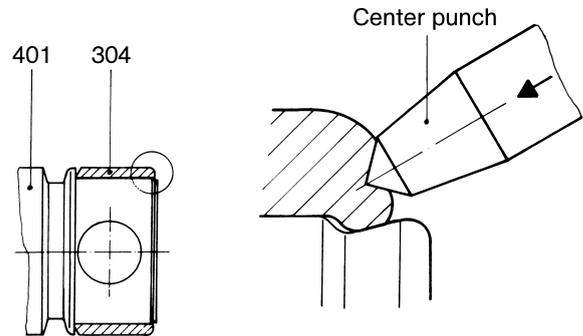

Figure 8: Securing the retaining sleeve
- Push clamping bands (306), cover sleeves (308) and retaining sleeve (304) onto the shaft of the coupling rod (307).
- Push the coupling rod (307) into the head of the rotor (401) or the hollow shaft (125).
- Push coupling rod pins (301) into the coupling rod bush (302) and drive in guide bushes (303) completely.
- If necessary, emery the outside of the retaining sleeve (304) and pull it over the head of the rotor (401) or the hollow shaft (125).
- After installing the retaining sleeve (304), secure it against axial movement on the head of the rotor (401) or hollow shaft (125).
**ATTENTION** To do this, drive the face of the retaining sleeve (304) into the groove on the head of the rotor (401) or hollow shaft (125) using a centre punch (see Figure 8).